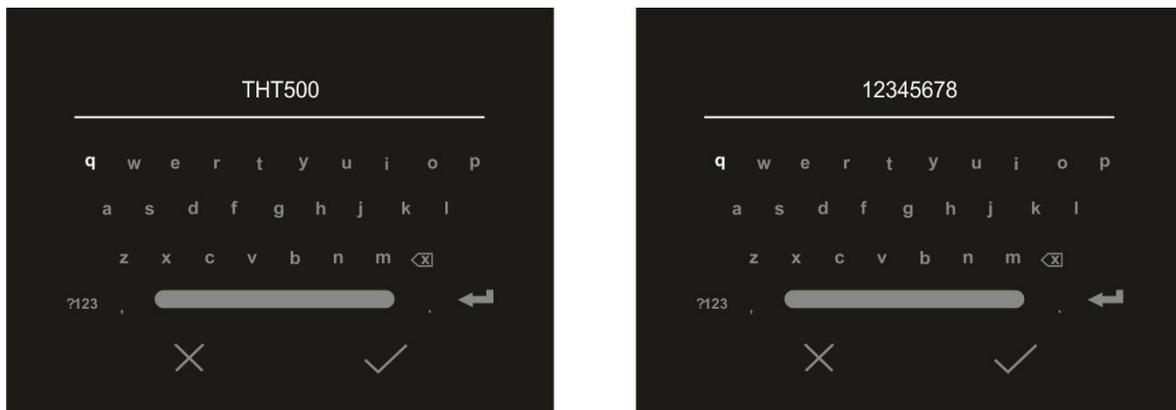

Fig. 18: Definition of SSID and Password of the WiFi connection
3. Touch item “SSID” to define a custom identification ID of the WiFi connection (default THT500). The screen in Fig. 18 – left side appears on the display.
5. Touch item “Password” to define a custom Password for the WiFi connection (default “12345678”). The screen in Fig. 18 – right side appears on the display.